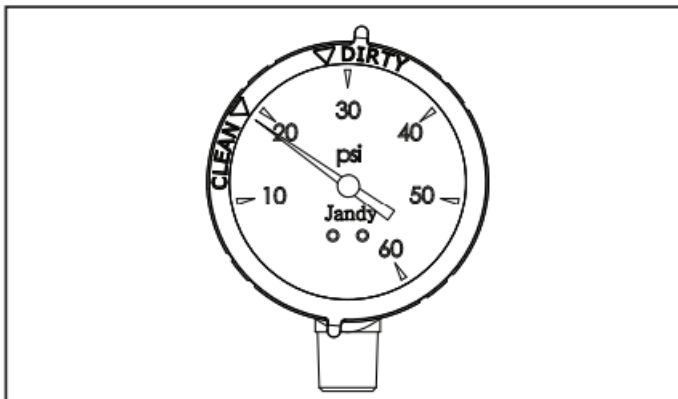

Figure 5. Pressure Gauge with Clean/Dirty Snap Ring
9. After the pressure gauge has stabilized, turn the bezel ring so that the arrow next to the word "CLEAN" aligns with the needle of the gauge. See Figure 5. As the filter cleans the water, and the cartridges begin to clog the pressure begins to increase. When the needle of the pressure gauge aligns with the arrow next to the word "DIRTY" on the bezel, it is time to clean the filter, see Section 6.3. This indicates an increased pressure of between 10 and 12 psi above original starting pressure.